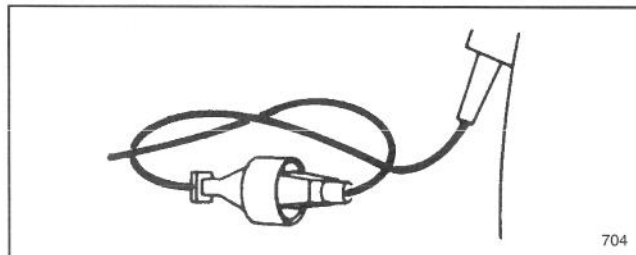

Figure 17
1. Secure the power supply cord and a suitable extension cord as shown in Figure 17.